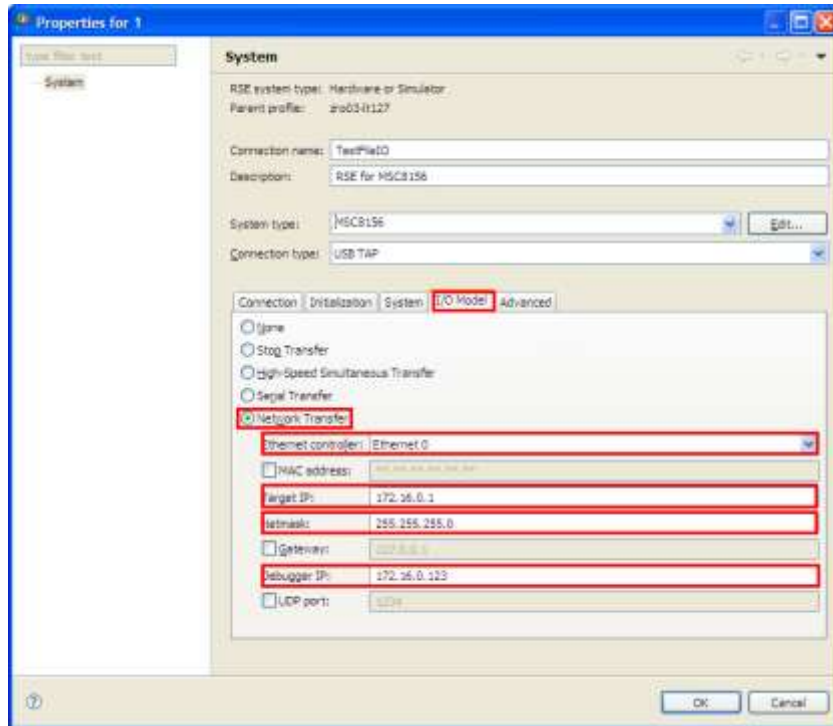

Figure 6. Modifying the Network Transfer Options for the Project.
6. Open the **Debug Configuration** window and choose the project's launch configuration. In the **Main** tab, edit the **Remote System** properties. In the Properties window that appears, select the **I/O Model** tab and modify the settings as show in Figure 6.